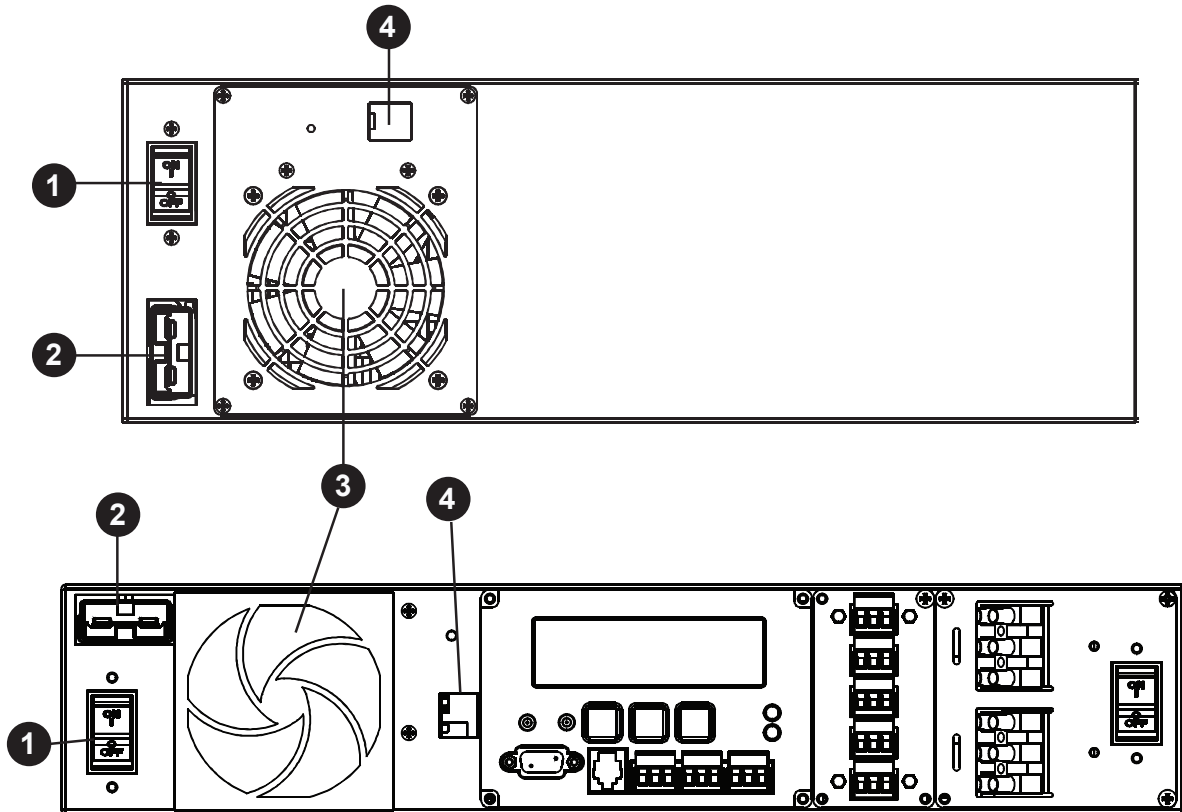

Figure 3.3 - Front Panel Description
- Ethernet port **4** in Figure 3.3,